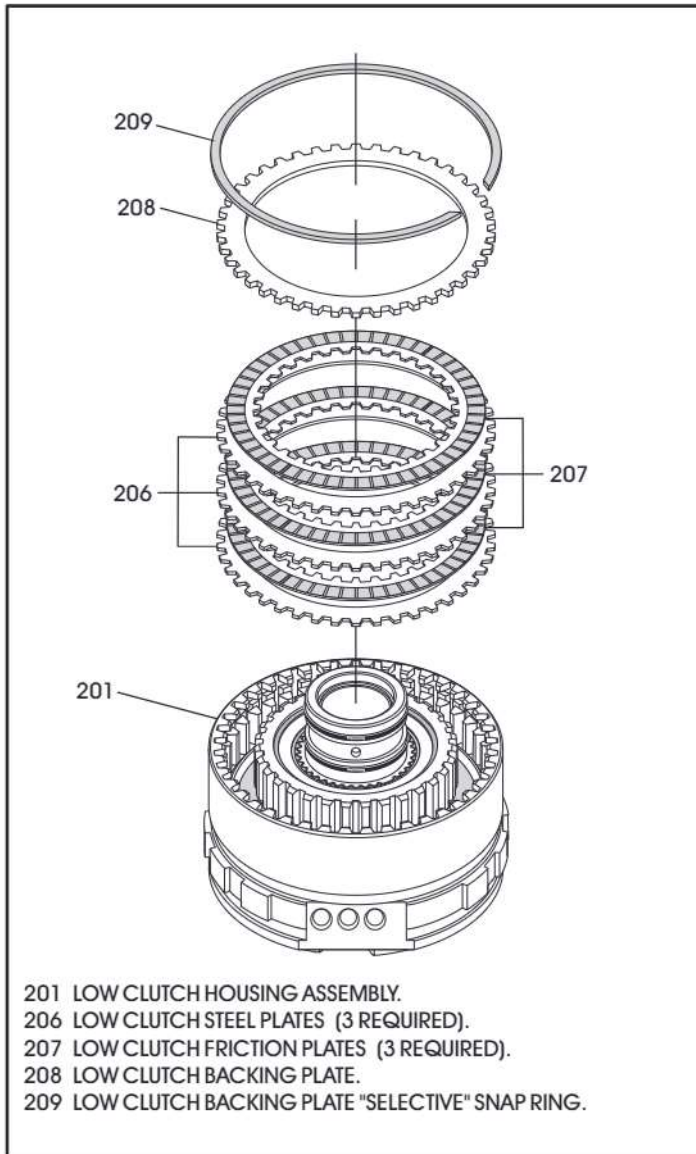

Figure 149
11. Install the low clutch plates beginning with a steel plate and alternating with frictions until you have installed three of each, as shown in Figure 149.
12. Install the low clutch backing plate on top of the last friction, as shown in Figure 149.
13. Install the low clutch backing plate "selective" snap ring, as shown in Figure 149.